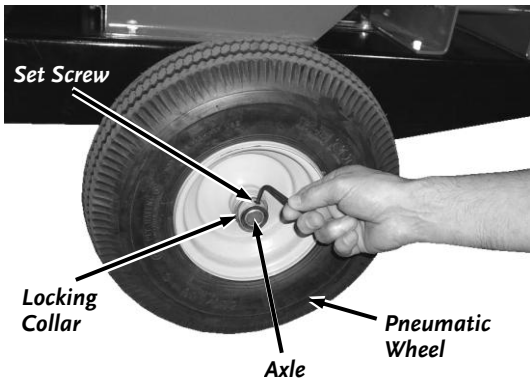

Figure 48
2. Loosen the Set Screw and remove the Locking Collar (**Figure 48**).